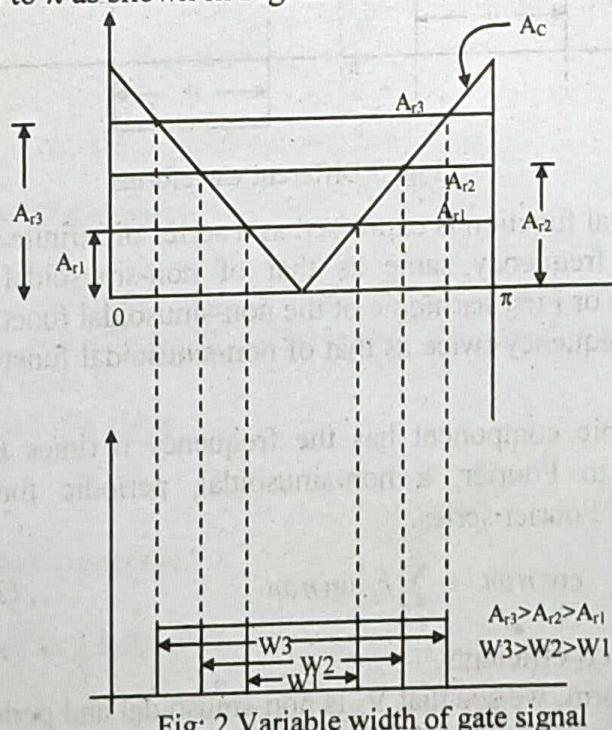

Fig: 2 Variable width of gate signal
- The width of the output pulse depends upon the amplitude of reference signal which is varied from 0 to  $\pi$  as shown in Fig. 2.